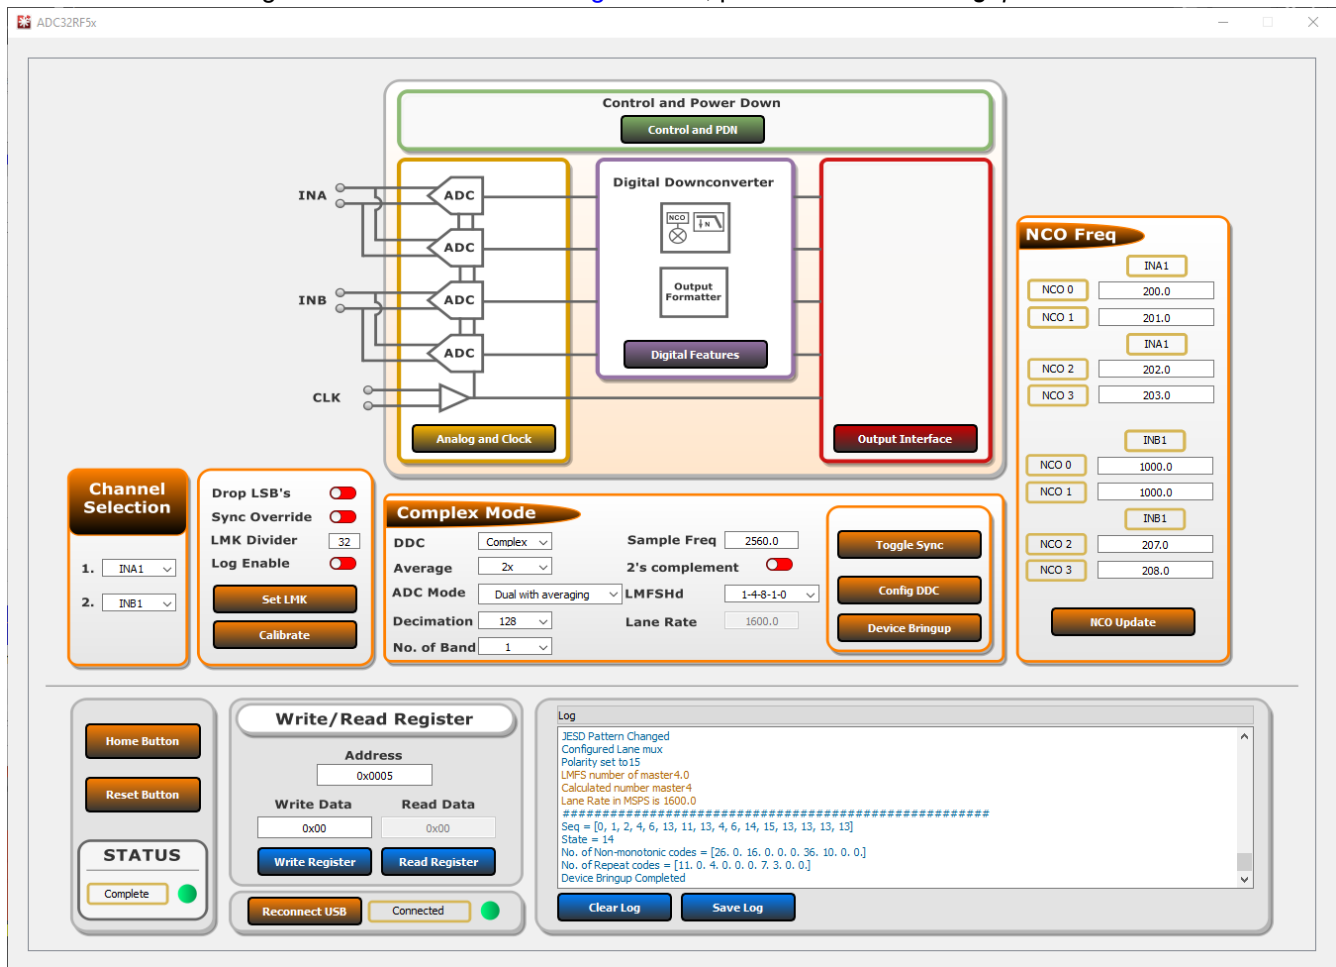

Figure 3-10. ADC32RF5xEVM GUI, 128x complex decimation, 1GHz NCO
8. Once these settings are verified and match Figure 3-10, press the *Device Bringup* button.